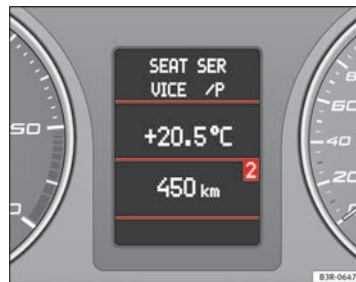

Fig. 65 Driver information system
- Press the **[MODE]** button **B** repeatedly to switch between modes, which are then displayed in the driver information system ⇒ Fig. 65.